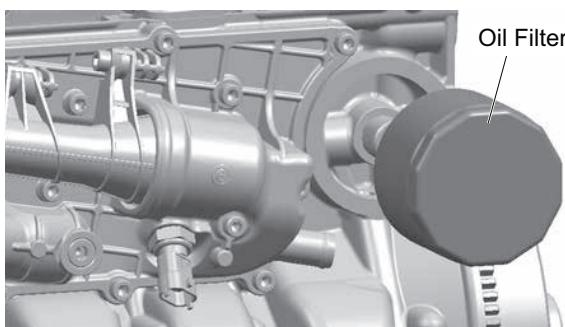

Fig. 6 Replace Oil Filter
1. Remove the oil filter with universal strap wrench (Ref. Fig. 6).